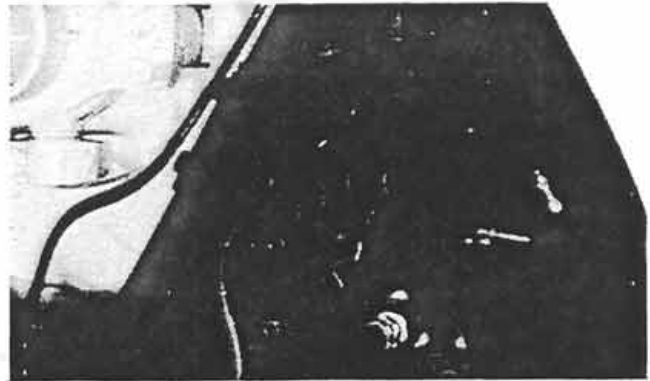

Figure 30:
15. After making the necessary line connections, bleed air from the brake system and refill the master cylinder fluid as required (Fig. 30).